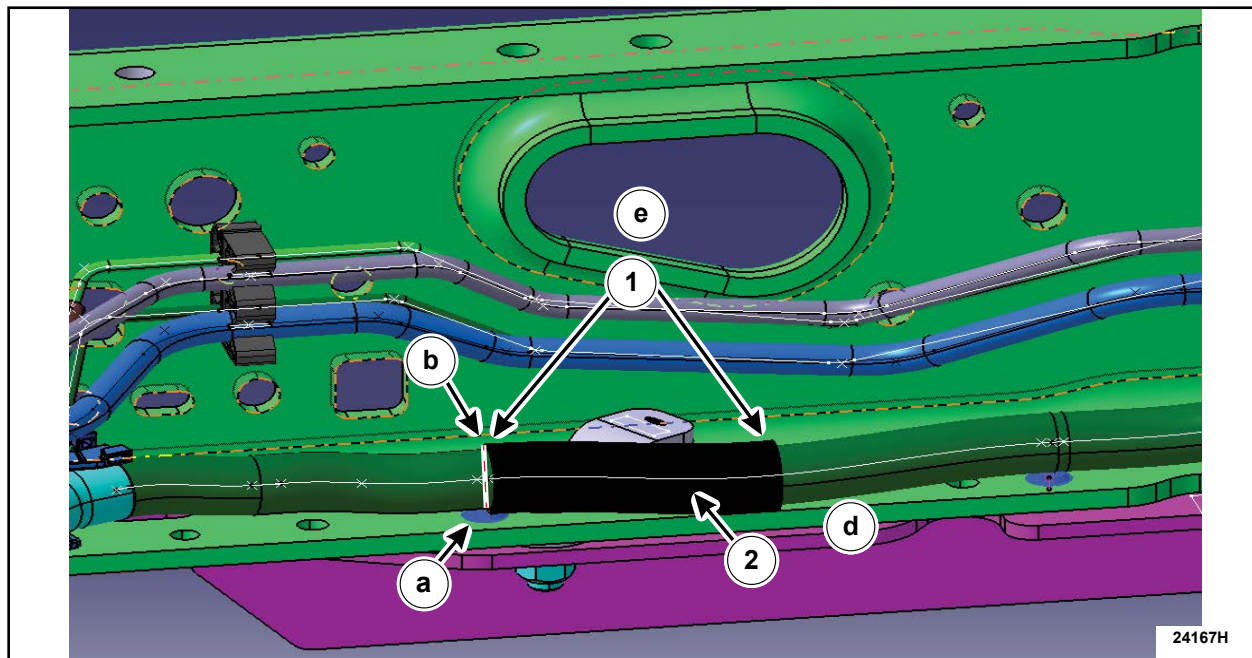

FIGURE 22
- Remove the tie strap push pin (a) from the hole indicated in Figure 22.
- Install the provided crush shield (d) on the harness with the rear edge of the shield aligning the mark made in second bullet point (above). See Figure 22.
- (1) Secure both ends with anti-abrasion tape.
(2) 100 mm long crush shield.